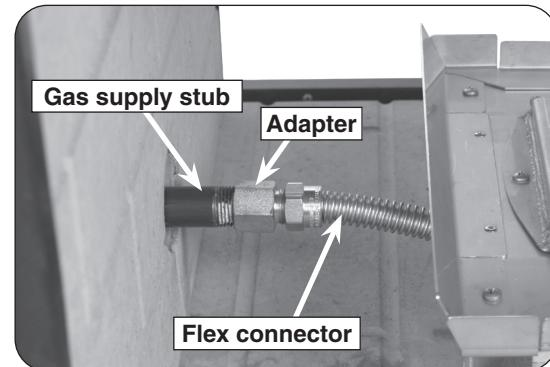

Fig. 14-1 Connect gas supply
2. Locate the gas-supply stub inside the fireplace and remove the cap, if attached (reference Fig. 14-1).
4. Be sure gas to the fireplace is off. Remove the adapter connected to the flex connector (pre-installed on the burner system). Attach the adapter to the gas-supply stub using a pipe compound resistant to all gasses. Tighten securely. Then attach the open end of the flex connector to the adapter. Tighten securely (See Fig. 14-1).